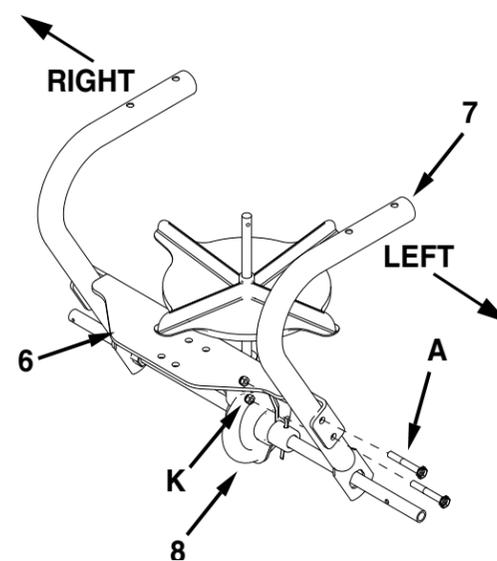

Figure 3B
STEP 3B (SEE FIGURE 3B): Loosely attach the frame tubes (7) to the crossover brace (10) using four 1/4 x 1-3/4" hex bolts (A) and 1/4" nylock nuts (K). Insert the long end of the axle (identified in Step 3A) through the right side of the frame tube assembly and then insert the short end (identified in Step 3A) into the left side of the frame assembly as shown. Tighten hardware.